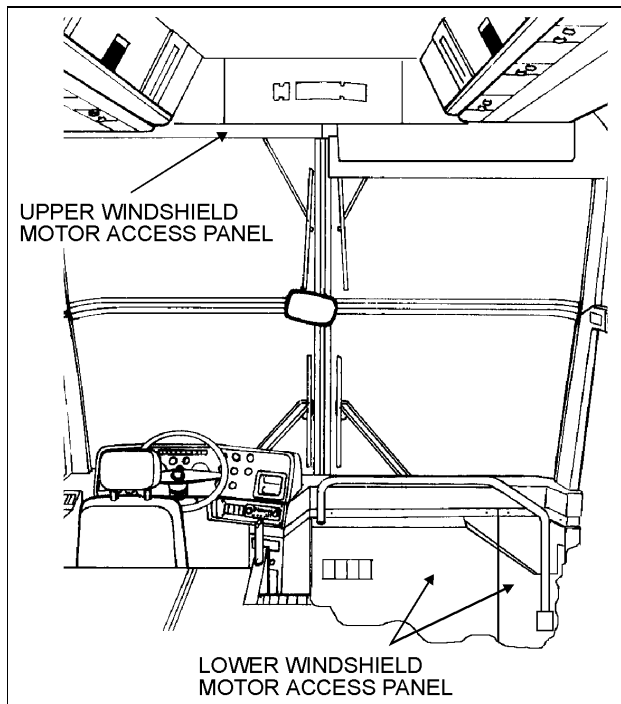

FIGURE 28: MOTOR LOCATION
The windshield wipers are controlled by electric wiper motors that are accessible for maintenance after raising the appropriate access panel at the front of the coach (for location of the two motors, see figure 28).
5. Install the right wiper arm in it's normal position (In the middle of the windshield (Fig. 28)). Refer to paragraph "8.2.1 Sweep Adjustment".
7. Install the left wiper arm in it's normal position (In the middle of the windshield (Fig. 28)). Refer to paragraph "8.2.1 Sweep Adjustment".
3. Install the left wiper arm in it's normal position (In the middle of the windshield (Fig. 28)). Refer to paragraph "8.2.1 Sweep Adjustment".
4. The left wiper arm final adjustment is made by modifying rod length from 8.46 inches (215 mm). Install the right wiper arm in it's normal position (In the middle of the windshield (Fig. 28)). Refer to paragraph "8.2.1 Sweep Adjustment".
The lower windshield wiper motor is located at lower front of the vehicle, behind the defroster panel. For motor location, see figure 28.
The upper windshield wiper motor is located above L.H. upper windshield panel (Fig. 28). To remove the motor, it is necessary to remove left sun visor and upper windshield.